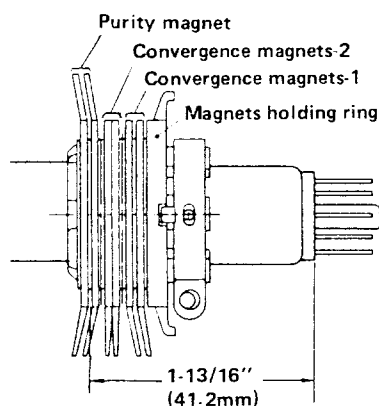

Fig. 4-2-1
- Confirm that the purity magnet is positioned at 1-13/16" (46mm) from edge of CRT neck. (Fig. 4-2-1)
- While observing Video Monitor, adjust convergence magnets-1 (Fig. 4-2-1) so that the Red and Blue dots on the center area of CRT screen is overlapped.
- While observing Video Monitor, adjust convergence magnets-2 (Fig. 4-2-1) so that Green and Magenta (Red + Blue) dots on the center area of CRT screen is overlapped, that is, dots become white.
(6) Subcontrast and subbright adjustment